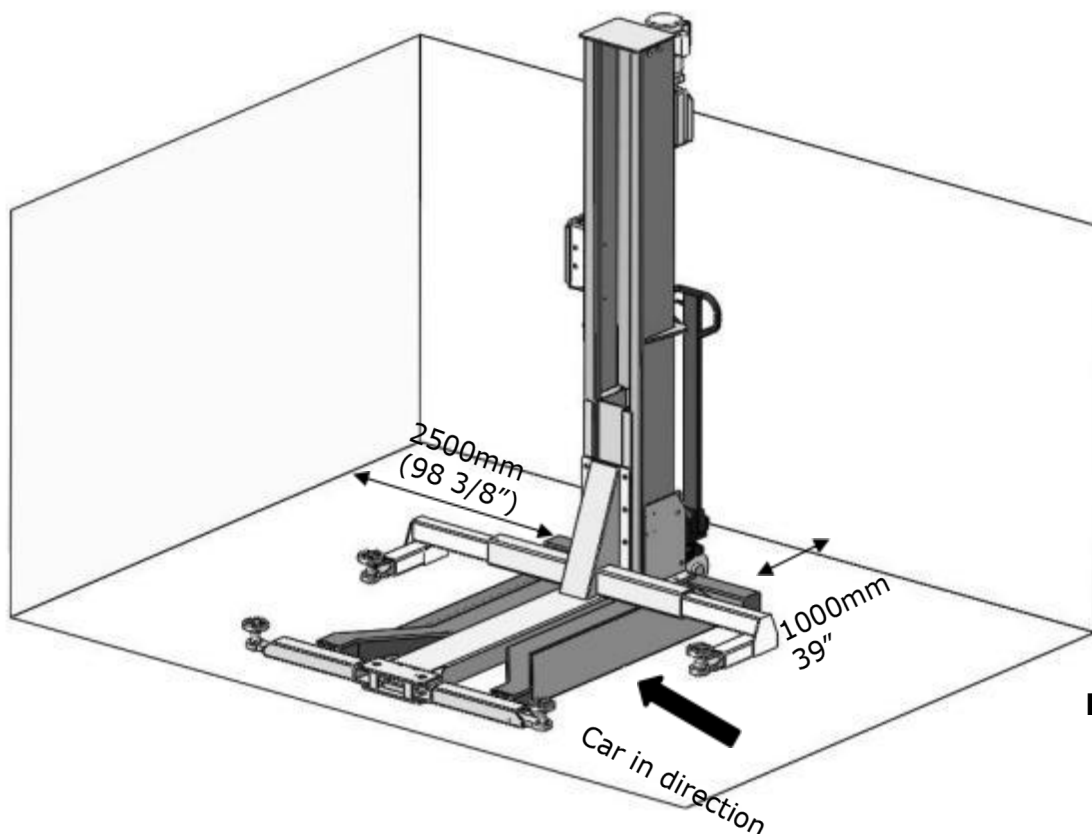

Fig.5
2. Installation space: Ensure there is enough space for the lift. Accurately measure the front, back, side and top mounting dimensions and refer to the below figure data (**See Fig. 5**).